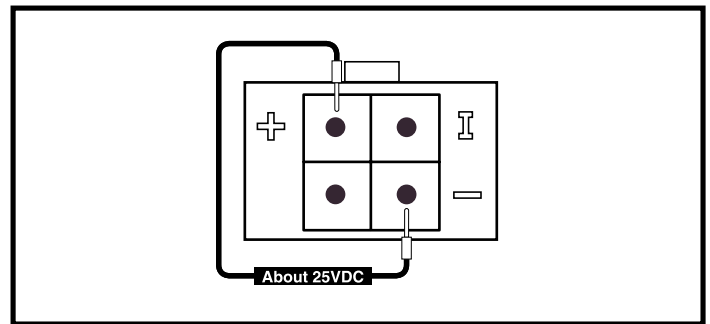

Figure 12. Connector 6b
15. Unplug connector 10b from the power module (6). See diagram 3.
16. Measure voltage across pin 1 (+) and pin 4 (-) on connector 6b. See figure 12.
- If your multimeter indicates total battery voltage (about 25VDC), then replace the charger/inhibit harness (10) and retest the system.
- If your multimeter indicates 0VDC, then replace the power module (6) and retest the system.